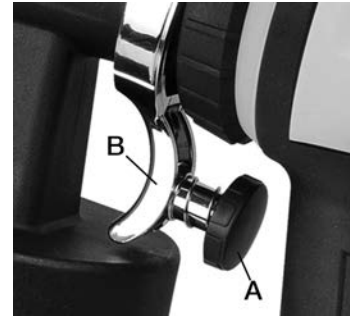

Figure 5
This spray gun comes with an adjustable paint flow rate control dial (A) Fig.5 located on the rear of the trigger (B).